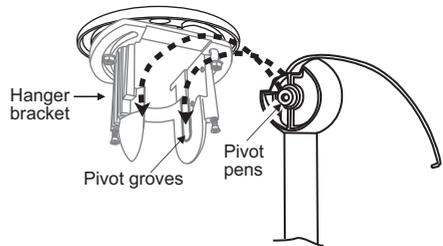

Fig. 13
NOTE: The Hanger Ball can be installed in **ONLY** one direction. The "cutout" should be toward the "Lower" end of the ceiling slope. (Fig. 13)
8. Now lift the motor assembly into position with the hanger ball in the position (shown in Fig. 13) and place the pivot pens on the hanger ball into the pivot grooves on the hanger bracket. (Fig 13)
Next, lower the hanger ball until the pivot pens rest in the bottom of the pivot grooves. (Fig 13)